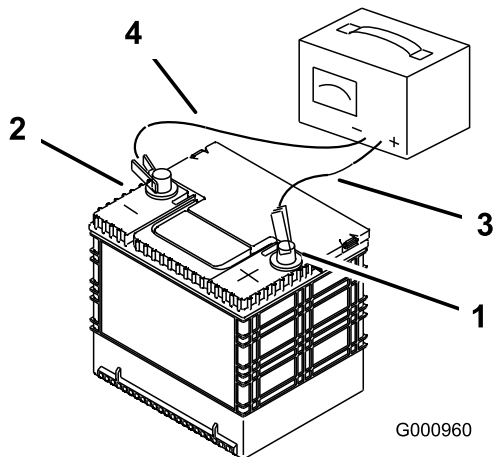

Figure 72
3. When the battery is fully charged, unplug the charger from the electrical outlet, then disconnect the charger leads from the battery posts (Figure 72).